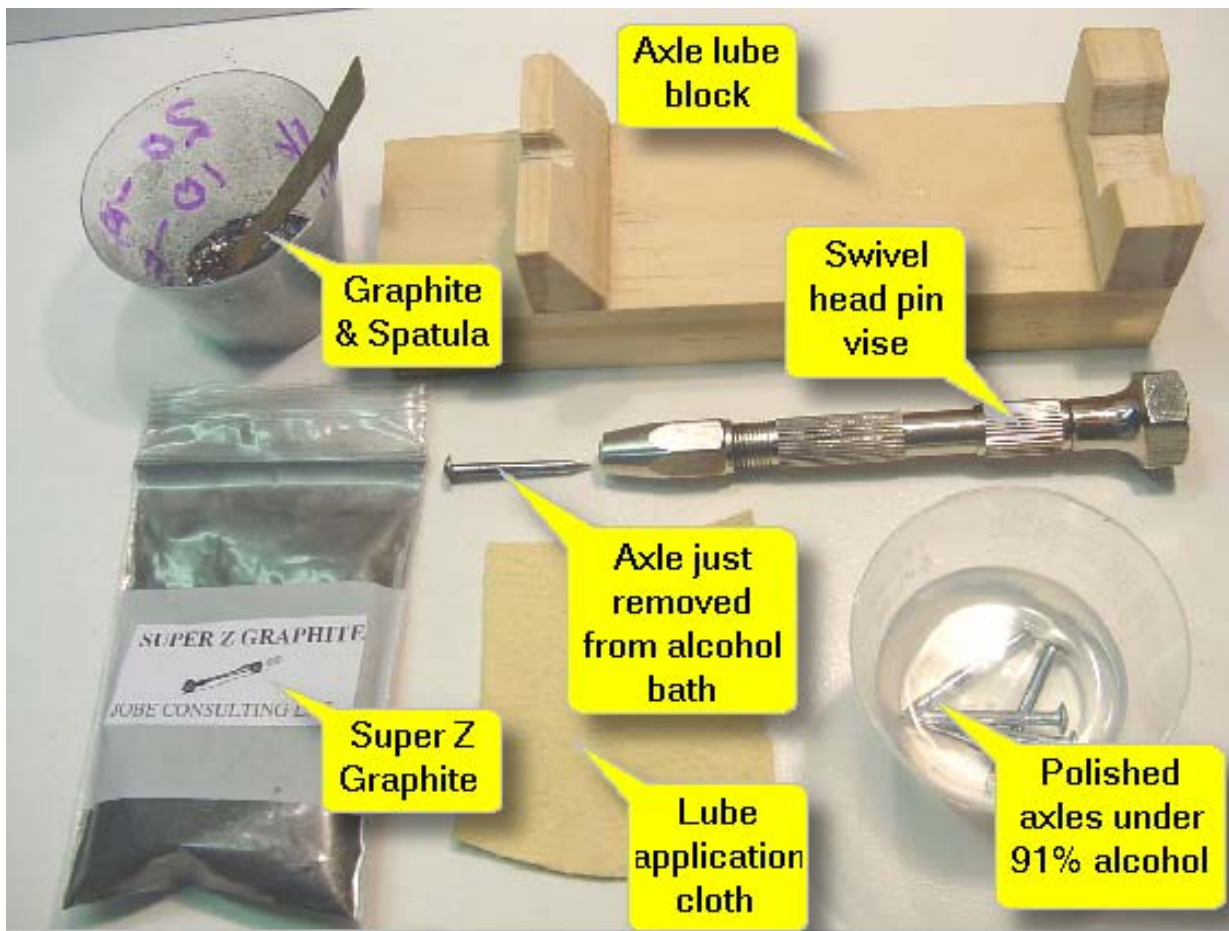

Figure 11 - *Setting up the pieces for applying graphite to the axle.*
- Next we should prepare our equipment for axle lubrication as in **Figure 11**.